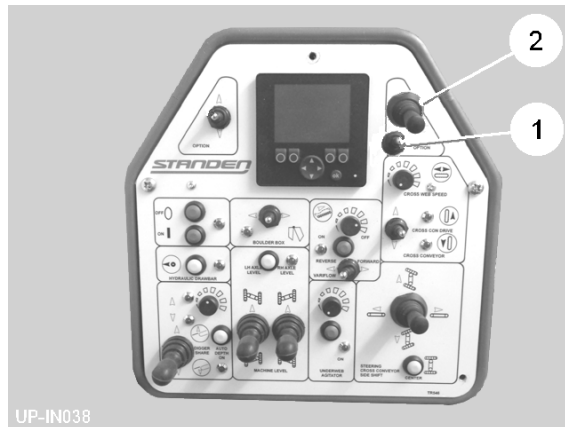

Fig 16
The switch (item 1, fig 16) is used to select either the stone elevator fold / unfold function (DOWN position) or swan neck raise / lower function (UP position). The joystick (item 2, fig 16) then operates that function.